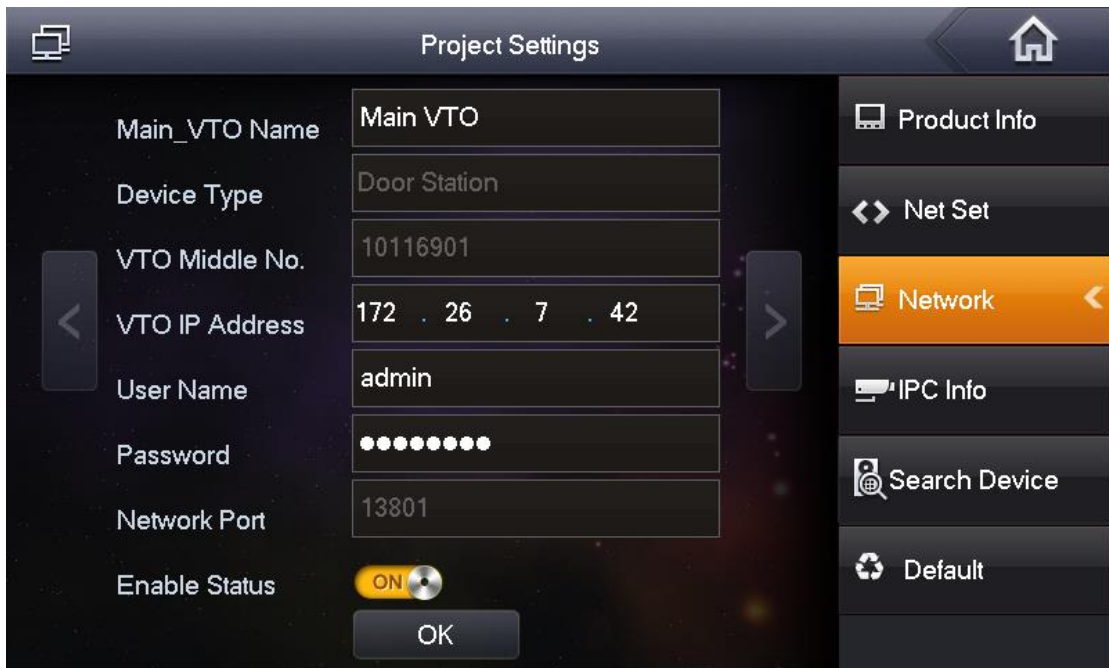

Figure 2-10
The system displays “Network” interface, as shown in Figure 2-10.
1. In Figure 2-10, enter main VTO name, IP address, “User Name” and “Password”.